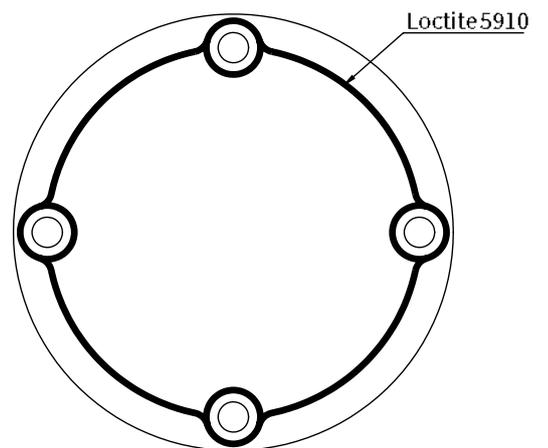

Fig. 13.17
- Seal bottom cover plate (1101) onto bottom housing with Loctite 5910 see Fig. 13.17